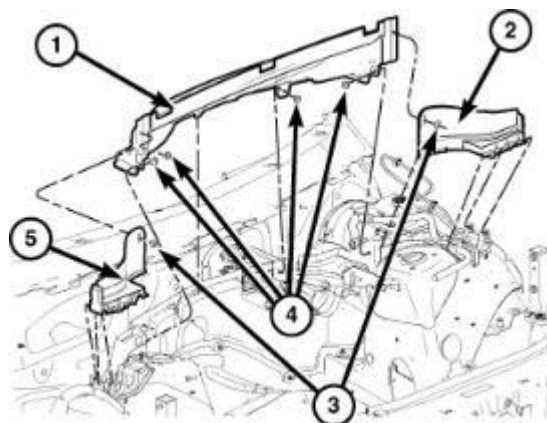

Figure 15 – Engine Cover
9. Remove the cowl extension (1) and the side extensions (2, 5) (Refer to 23 - Body/Exterior/SILENCER, Cowl Extension/Removal) (Figure 15).